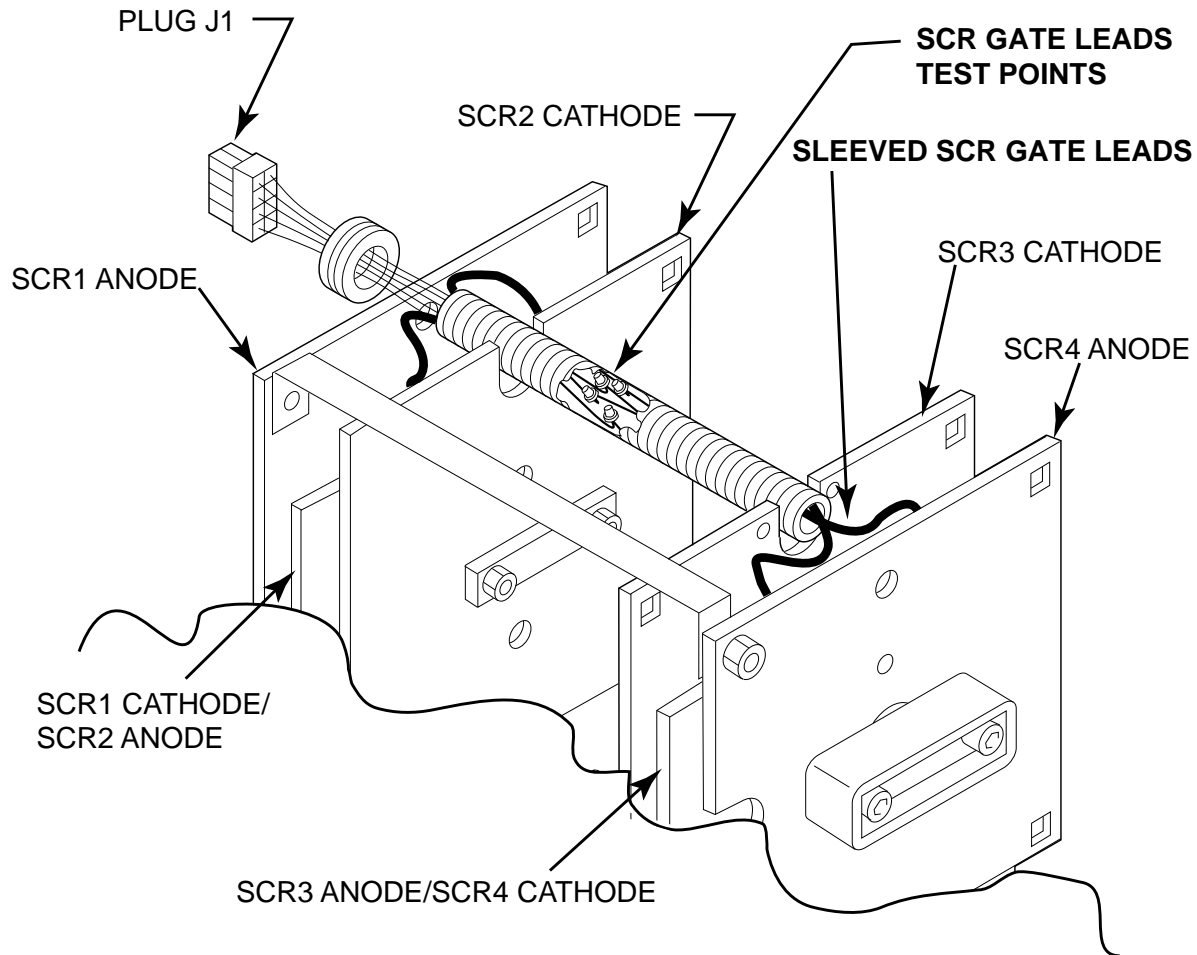

FIGURE F.6 SCR GATE LOCATIONS
3. Perform test procedure as outlined in Figure F.5. Repeat test for all four SCRs. See *Figure F.6*.